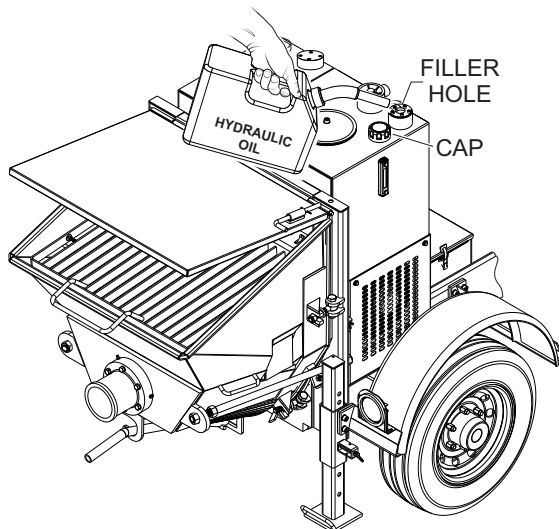
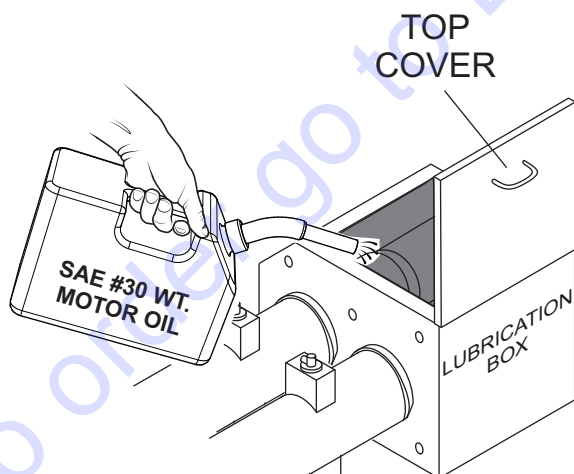

Figure 14. Adding Hydraulic Oil (Filler Hole)
Figure 15. Filling the Lubrication Box
- If the hydraulic oil level is low, remove the hydraulic oil tank cap just above the oil level sight glass (Figure 14) and add the correct amount of hydraulic oil to bring the hydraulic oil level to a normal, safe operating level. Use Shell Oil Tellus 46.
- Check the oil level in the **lubrication box** (Figure 15). If low, fill with up to 4.4 gallons of SAE #30 motor oil (Figure 14). The oil level must be checked daily. The lubrication box should be serviced as described in the Maintenance section.